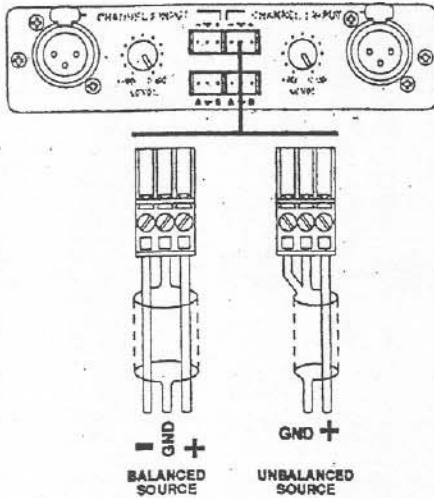
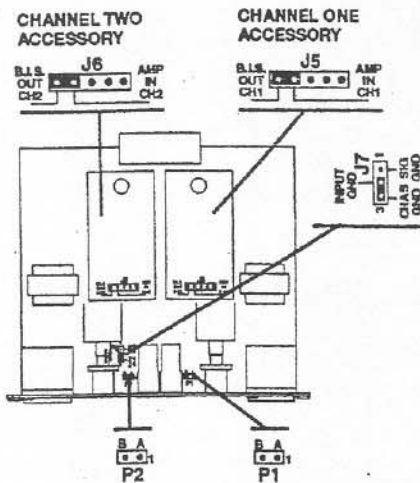
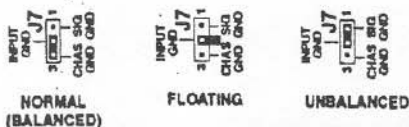

Figure 1 Connections for balanced or unbalanced signal sources.
Figure 2 Internal jumpers for accessories, link connector and ground jumper.
Figure 3 Input grounding options.
Balanced input connections may be made to either the three-pin screw terminals or the XLR connectors. The screw terminal connections are internally wired directly to the XLR pins. XLR pin 1 corresponds to the screw terminal marked with a ground symbol. XLR pins 2 and 3 correspond to the terminals marked "+" and "-" respectively (refer to input board schematic on page 19). Figure 1 illustrates two types of connections to the input module using the detachable 3.5 millimeter plugs that are provided as part of the accessory kit. The first connection shown is for interfacing to a balanced signal source. The source generates two signals (+ and -) and provides a ground reference for shielding. The optimum ground reference for this configuration is the chassis ground of both the source device and the amplifier. This configuration requires that the internal ground jumper is set in either the "CHAS GND" position or the floating position (see figures 2 and 3). The second connection
shown in figure 1 is for an unbalanced signal source. Since the "-" of the unbalanced signal source is also the signal-ground, the "-" terminal of the amplifier must be referenced to this same point. The internal ground jumper must be in the "SIG GND" position for all unbalanced connections (see figures 2 and 3). The balanced and unbalanced connections shown in figure 1 can also apply to XLR connectors. If you are using XLR connectors and you intend to float the shield, be sure you are not inadvertently connecting the chassis ground to the cable shield through the fourth connection of the XLR connector. Some XLR connectors provide a fourth connection to the metal housing which will connect to the chassis ground of the amplifier when plugged in.
To help facilitate various grounding connections for pin 1 of the XLR connectors (and the input terminal ground), a three pin jumper is provided on the standard input module (figure 2). This jumper connects pin 1 of both XLR connectors to either the chassis ground (indicated by CHAS GND) or signal ground (indicated by SIG GND). The unit is shipped with pin 1 connected to the chassis (Figure 3). This position offers the best isolation from ground loops and noise if you use a uniformly shielded twisted pair cable that does not include a drain wire. A third option is to float the input ground by removing the jumper completely (Figure 3). This will break ground loops but may not offer good shielding unless the signal source provides a good ground for the cable shield. You should only use the signal ground position if you are using unbalanced signal sources.
Each channel of the standard input module provides the user with a flexible three-pin link connector. There are two primary functions that the link connector performs. (1) It provides a way to insert an external signal processor into the signal path by isolating the entire balanced input stage from the unbalanced input to the amplifier. (2) It provides buffered outputs for the optional accessories that plug into the standard input module. The pin marked 'A' of each link connector is hard-wired to the output of the optional accessory module (figure 6). The pin marked 'B' is unassigned. This pin ties to a header (P1 for channel 1, P2 for channel 2) inside the standard input module and is not connected to any circuit in the board (figure 2). The center pin of the link connector is hard-wired to the analog signal ground and is used as the ground reference for all link connections to external components (refer to input board schematic on page 19).
You can isolate the entire balanced input stage for each channel by removing the jumper J5/ch1 or J6/ch2. The output of this stage is marked on the pc board as 'B.I.S. OUT CH1' or 'B.I.S. OUT CH2' (figure 2). This signal can be brought out of the module via the 'B' pin of the Link connector by patching 'B.I.S. OUT CH1 or CH2' to the post header of P1 or P2 that is marked 'B' (figure 4). The accessory kit that is included with the amplifier contains several post-header terminals that can be used to build shoring jumper wires. The signal can be returned via the 'A' pin of the Link connector since it is hard wired to the unbalanced amplifier input. The ability to insert signal processors such as filters, equalizers and compressor/limiters allows the user to take advantage of the features of the balanced input stage (i.e. H-pad, transformer isolation and ground selection) which is not likely to be available on most signal processing equipment. Figure 5 shows how this feature can be used to insert an equalizer into the audio path for channel one using the internal connections shown in figure 4.